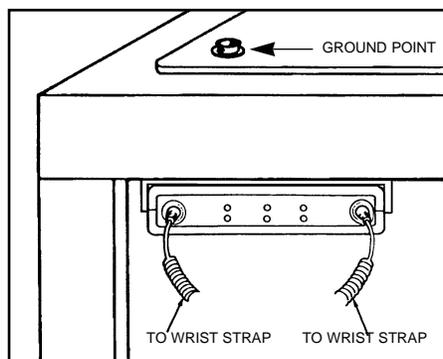
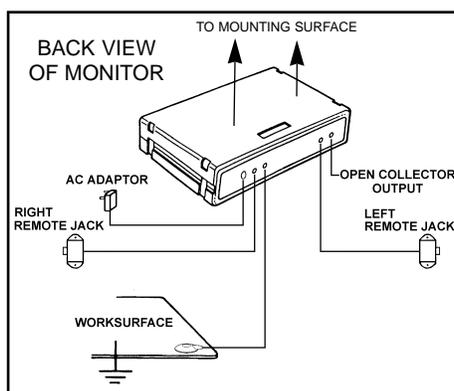

Figure 3. Operating the 99071 monitor.
Figure 4. Wiring connection instructions for the 99071.
Figure 3 shows the monitor as it is viewed from the front. Figure 4 shows the monitor as it is viewed from the rear, with the work surface wiring in place.
1. Use rear access connections when using monitor with remote jacks. Access holes are provided on the bottom of the unit to loosen/tighten connections. See Figure 4 for wiring connection instructions.
3. **Confirm that worksurface surface resistance is 5×10^8 ohms or less.** Connect the stripped end of the work surface cord included with the unit to the terminal marked "Work Surface" on the back of the unit. Snap the other end to the worksurface as shown in figures 4 and 5.
The model 99071 monitor also incorporates logic output circuitry. The unit is designed with an open collector circuit that can be set up to activate remote sirens, alarms or interface with a computer. The open collector circuit is accessible through the terminal screw on back of the monitor. See figure 4 for location.